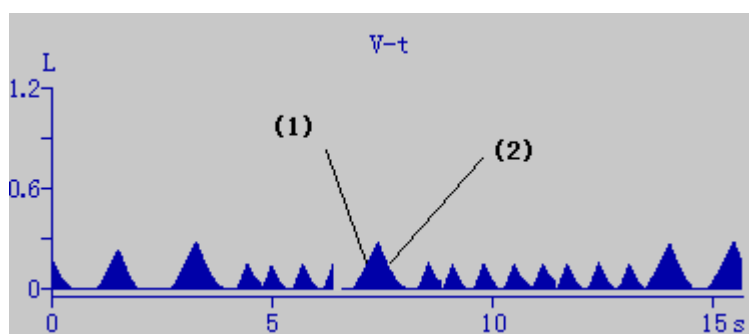

Figure 3-7 V-t waveform
See Figure 3-7, (1) inspiratory phase; (2) expiratory phase.